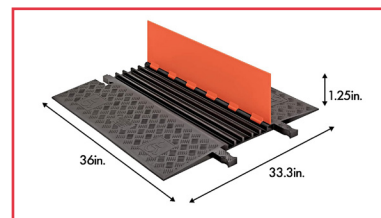

Figure 3
- All cables, cords, or wires used for temporary parklet lighting and speakers shall be run at ground level and completely covered with approved ADA accessible cable ramps (1:12 slope) (see Figure 3). Taping down or stringing **overhead wires are NOT permitted**.